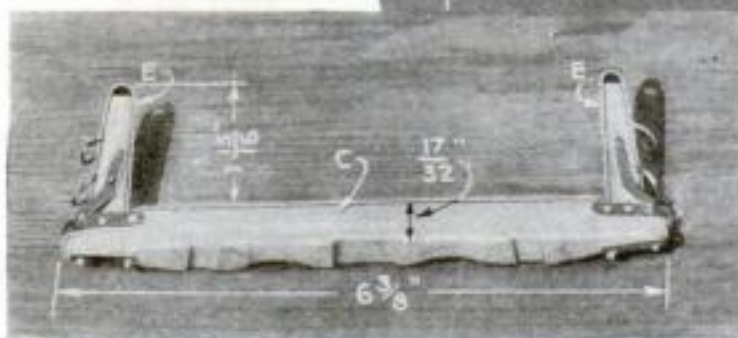

Fig. 3. The rear bolster *C*. The underportion is notched to receive the reach *U* and the hind hounds *H* (see Fig. 9).
**Rear:** There is no sand plate. The reach socket is cardboard colored with aluminum paint (see Figs. 3 and 8).